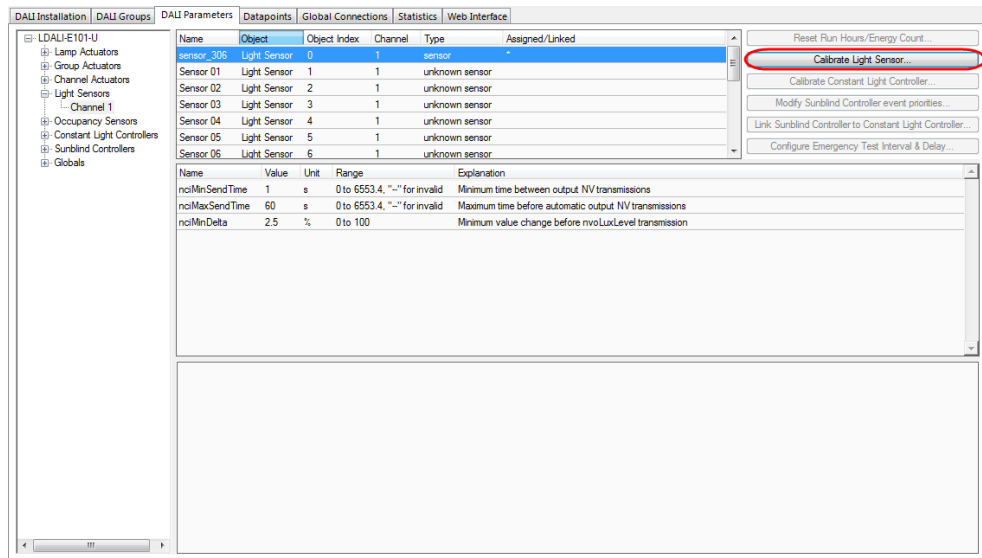
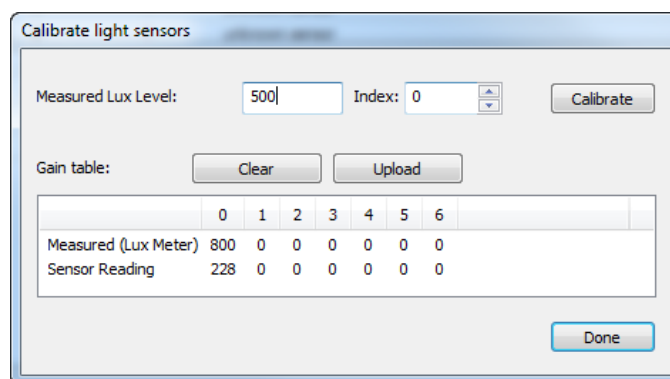

Figure 32: Parameterize Light Sensor.
Figure 33: Calibrate Light Sensor.
- Select the light sensor index 0 and click on the **Calibrate Light Sensor...** button as shown in Figure 32. The light sensor calibration window as shown in Figure 33 is displayed.